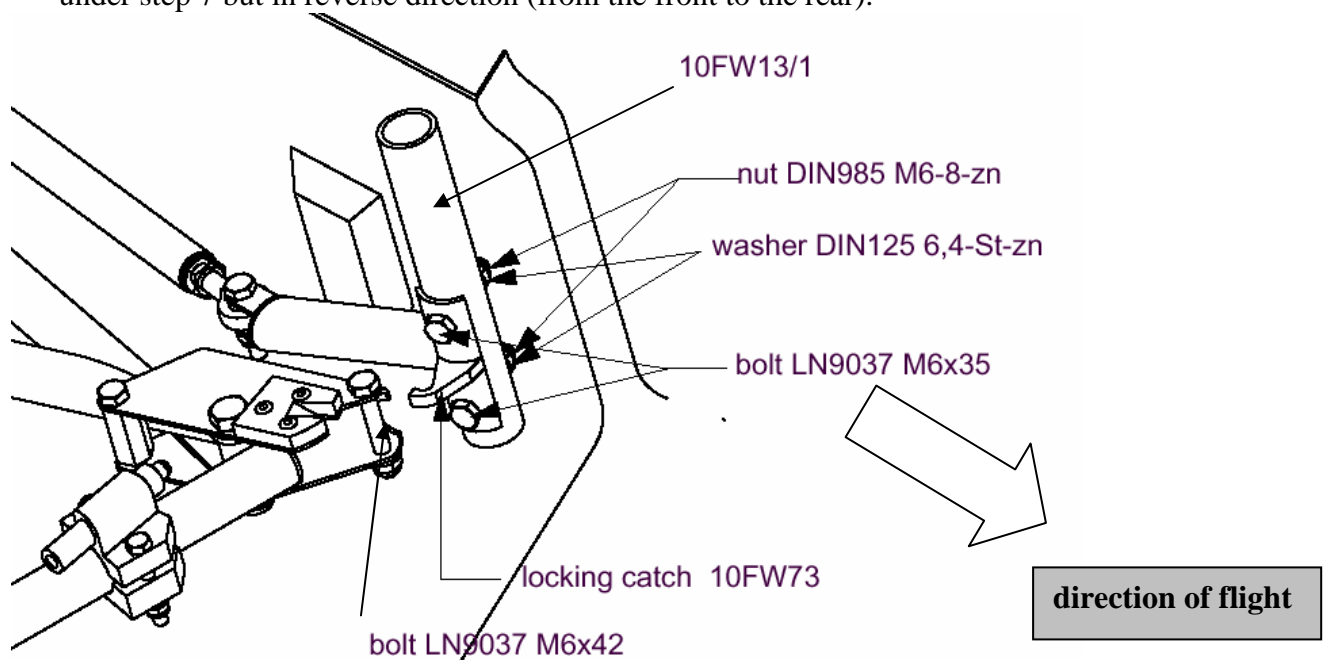

figure 5: installation of the locking catch. View LG retracted, locking catch not engaged.
8. Install the locking claw 10FW73 according to figure 5. Reinstall the 2 bolts removed under step 7 but in reverse direction (from the front to the rear).